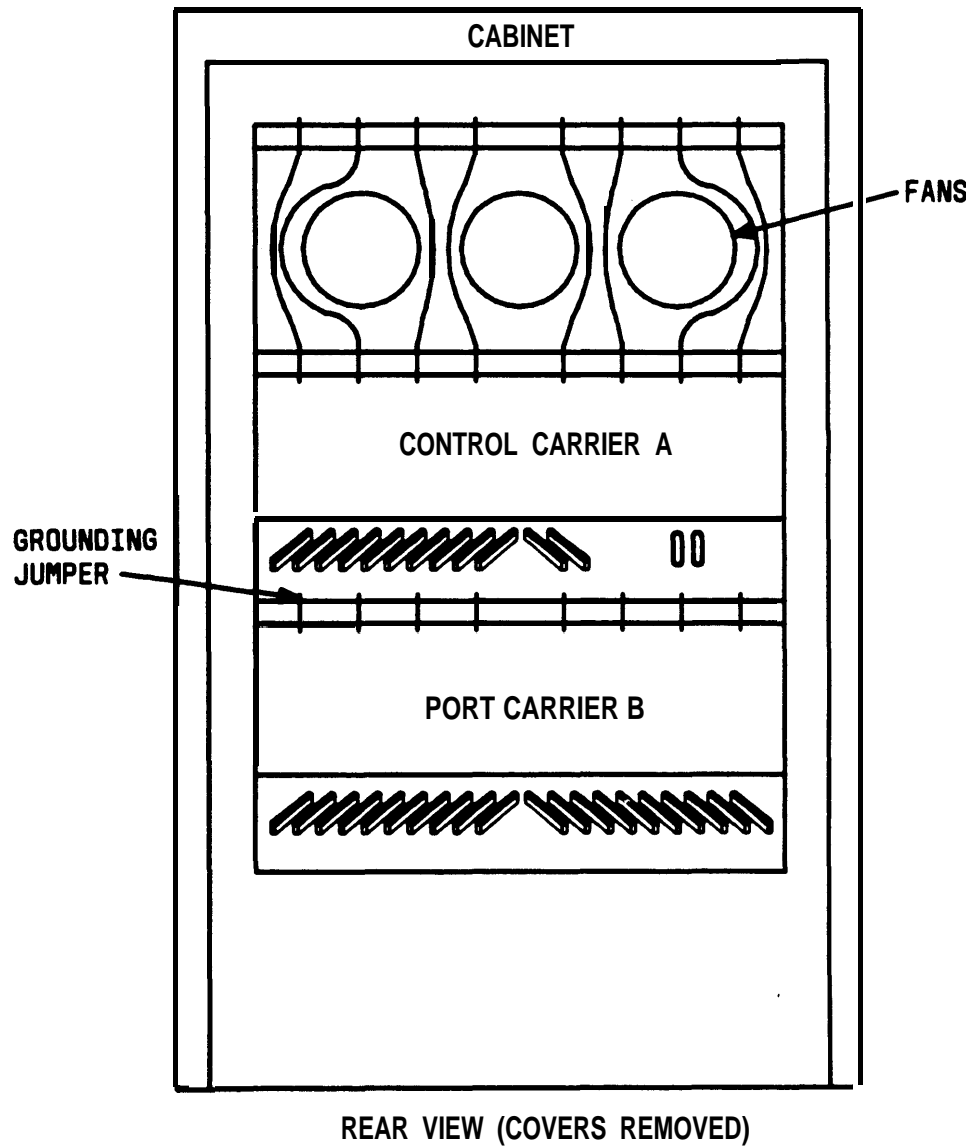

Figure 20. Small Cabinet Grounding Jumper Locations
- Ž Remove the eight grounding jumpers between the control and port carrier (Figure 20).